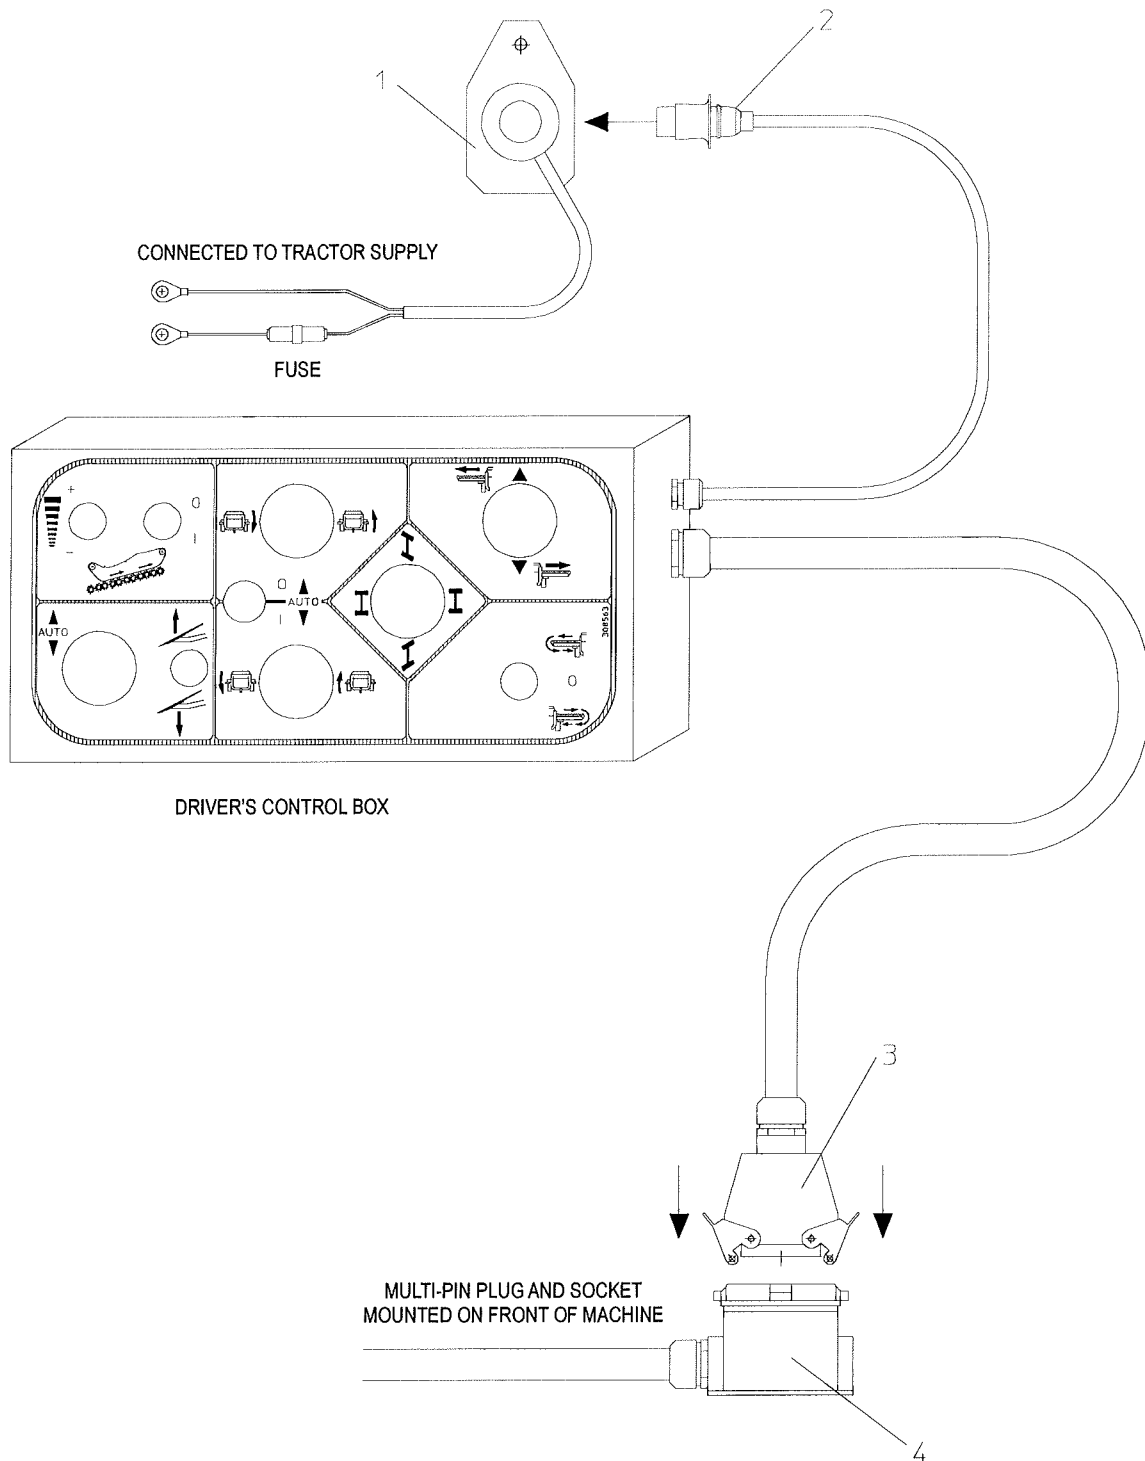

Fig 4.1
The machine is supplied with a power supply lead (fig 4.1 item 1), consisting of a pre-wired socket, inline fuse, (rated at 30 amp continuous) and eyelets for connecting to the tractor supply. The lead should be connected, via a suitable route on the tractor, to either the starter solenoid or the main battery. The wire fitted with the inline fuse should be connected to the positive terminal on the starter solenoid or the main battery. The other wire should be connected to either the battery negative terminal, or to a suitable earth point on the tractor.
Coming out of the driver's control box is an electrical cable with a three pin plug attached (fig 4.1 item 2), this is for the input power and is plugged into item 1.
Between the driver control box in the tractor cab and the machine is an electrical cable with a multi pin plug, (fig 4.1 item 3) which is connected to the multi pin socket, (fig 4.1 item 4) mounted on the front of the machine.